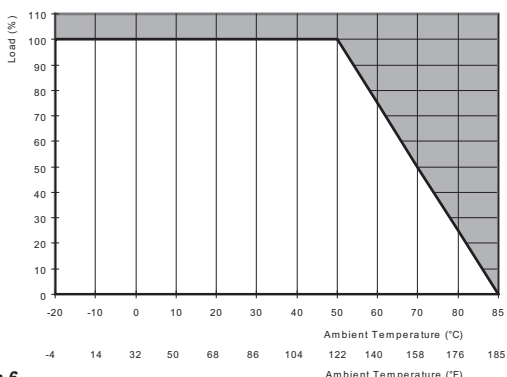

Figure 6
5.4. Thermal behavior (Fig. 6)
In the case of ambient temperatures above +50°C [122°F], the output capacity has to be reduced as shown in Figure 6. If the output capacity is not reduced when T_{Amb} > 50°C [122°F] device will switch into thermal protection mode. The device will cycle output on and off to maintain internal power dissipation and will recover when ambient temperature is lowered or load is reduced as far as necessary to keep device in a normal operating mode.